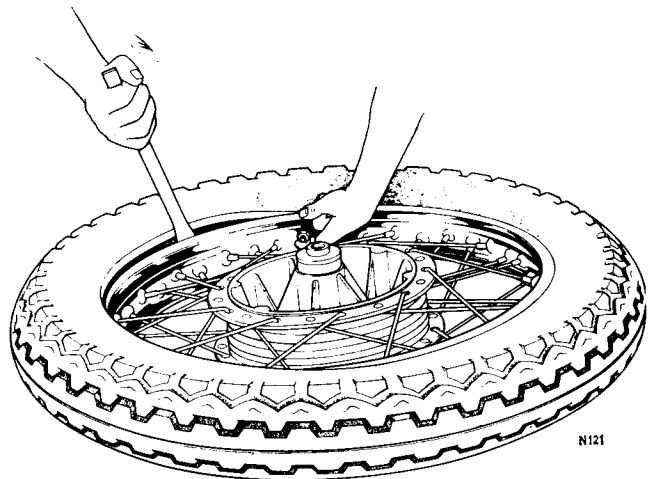

Fig. H25 Pressing security bolt back through rim whilst levering second bead into position
- 7 Press the second bead into the rim well whilst keeping the security bolt pressed back into the tire as in *Fig. H25* starting opposite the valve then use the heel to press the bead as far round as possible into position.
- 8 As shown in *Fig. H25*, taking care to avoid "nipping", lever the last portion of the bead over the rim, finishing at the valve.